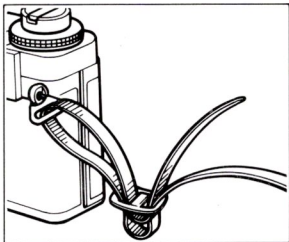

Fig. 2
2. Run the strap through the strap lug until the strap protrudes about 3 cm from the lug. Then adjust the strap length as desired. (**Fig. 2**)